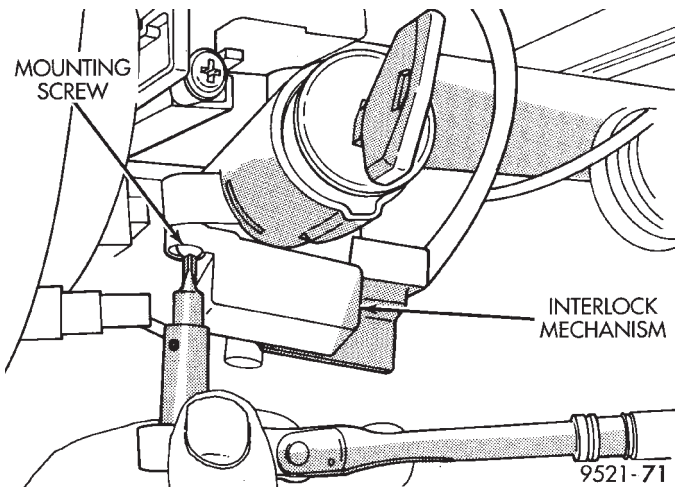

Fig. 21 Interlock Mechanism
(1) Remove the lower column covers, knee bolster and shrouds. Refer to Interlock Cable Replacement.
(2) Grasp the interlock cable and connector firmly. Remove the interlock cable.
(3) Remove the two interlock mechanism to steering column attaching screws (Fig. 21). Remove the interlock housing.